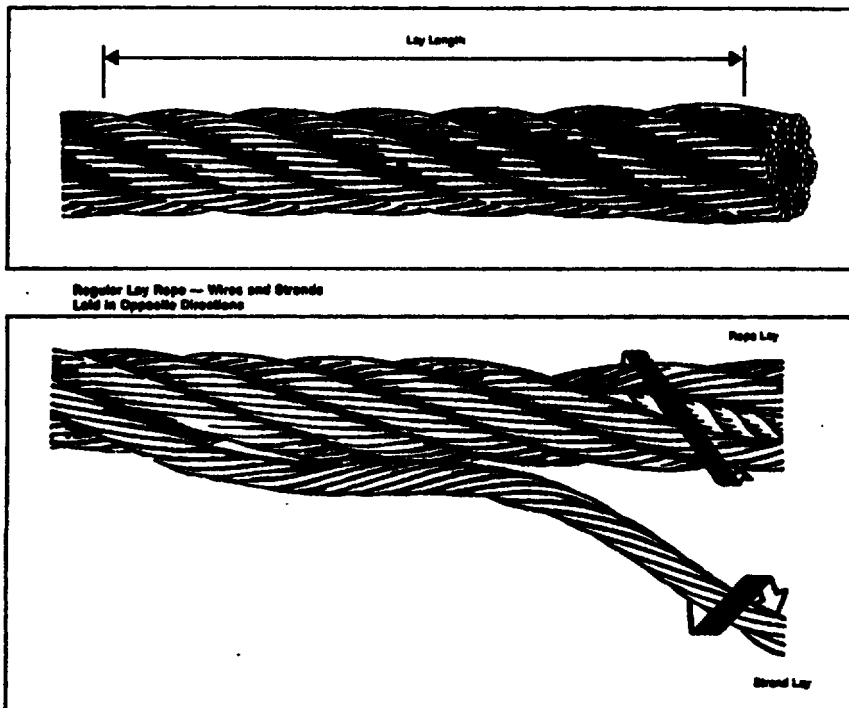

Fig. 2-7 Length of rope lay
- (6) **Special construction:** A number of developments in wire rope construction have produced multiple core non-rotating wires and other special purpose constructions. Their advantages and weaknesses vary. Such ropes shall only be used when specified in the vessel's plans.
9. **Lay Length.** A rope lay length, an important dimension in inspection, is the distance it takes one strand to go completely around the rope (See **Figure 2-7**). This is easily determined, if the number of strands are known. Start at one strand and count the strands down the rope until the number equals the number of strands. The last strand will be the same one as the first. The distance between the first and last is the lay length.